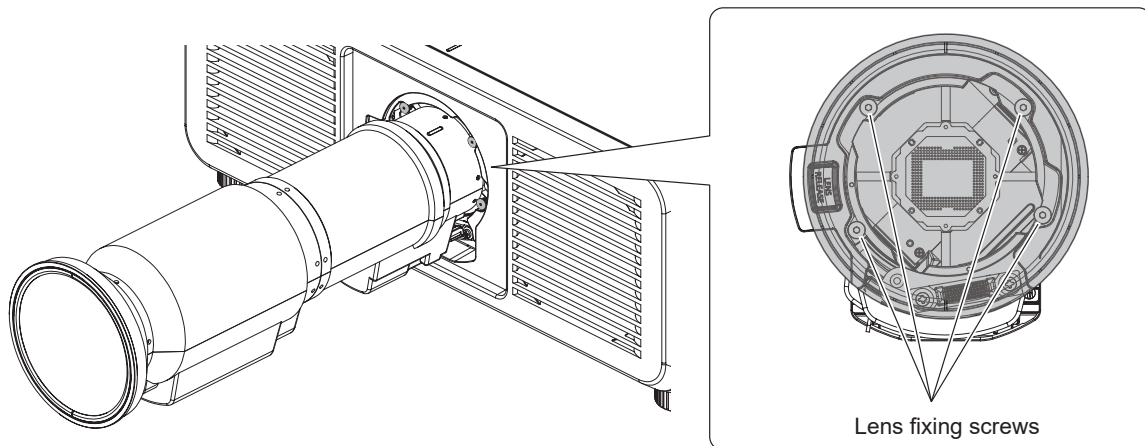

Fig. 1
- 1) **Loosen the four lens fixing screws with the ball point hex driver until the screws turn freely. (Fig. 1)**